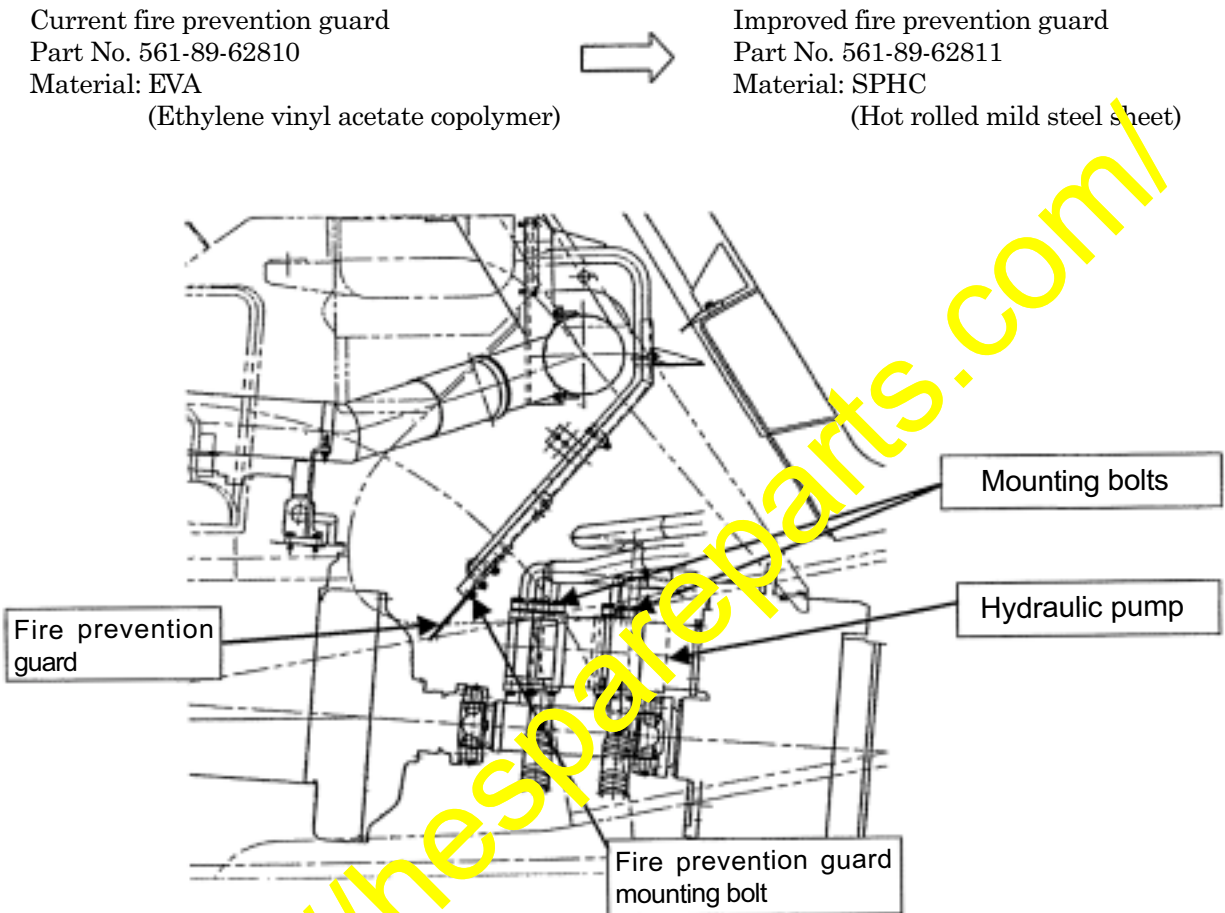

Fig. 1
- (1) When replacing the fire prevention guard, park the vehicle on a flat place, apply the parking brake and insert chocks underneath each tire.
- (2) Raise the body and insert the stopper pins.
5. Replacement procedure (Refer to Fig. 1.)
- (1) Remove the fire prevention guard mounting bolts (01010-81025) and remove the current fire prevention guard (561-89-62810).
- (2) Install the improved fire prevention guard (561-89-62811) using the fire prevention guard mounting bolts which have been removed as per the above Section (1).
6. Other precautions (Refer to Fig. 1.)